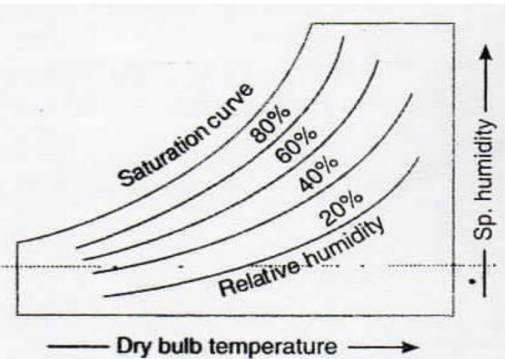

Fig. 14. Relative humidity lines.
8. **Relative humidity lines.** The relative humidity lines are curved lines and follow the saturation curve. Generally, these lines are drawn with values 10%, 20%, 30% etc. and up to 100%. The saturation curve represents 100% relative humidity. The values of relative humidity lines are generally given along the lines themselves as shown in Fig. 14.